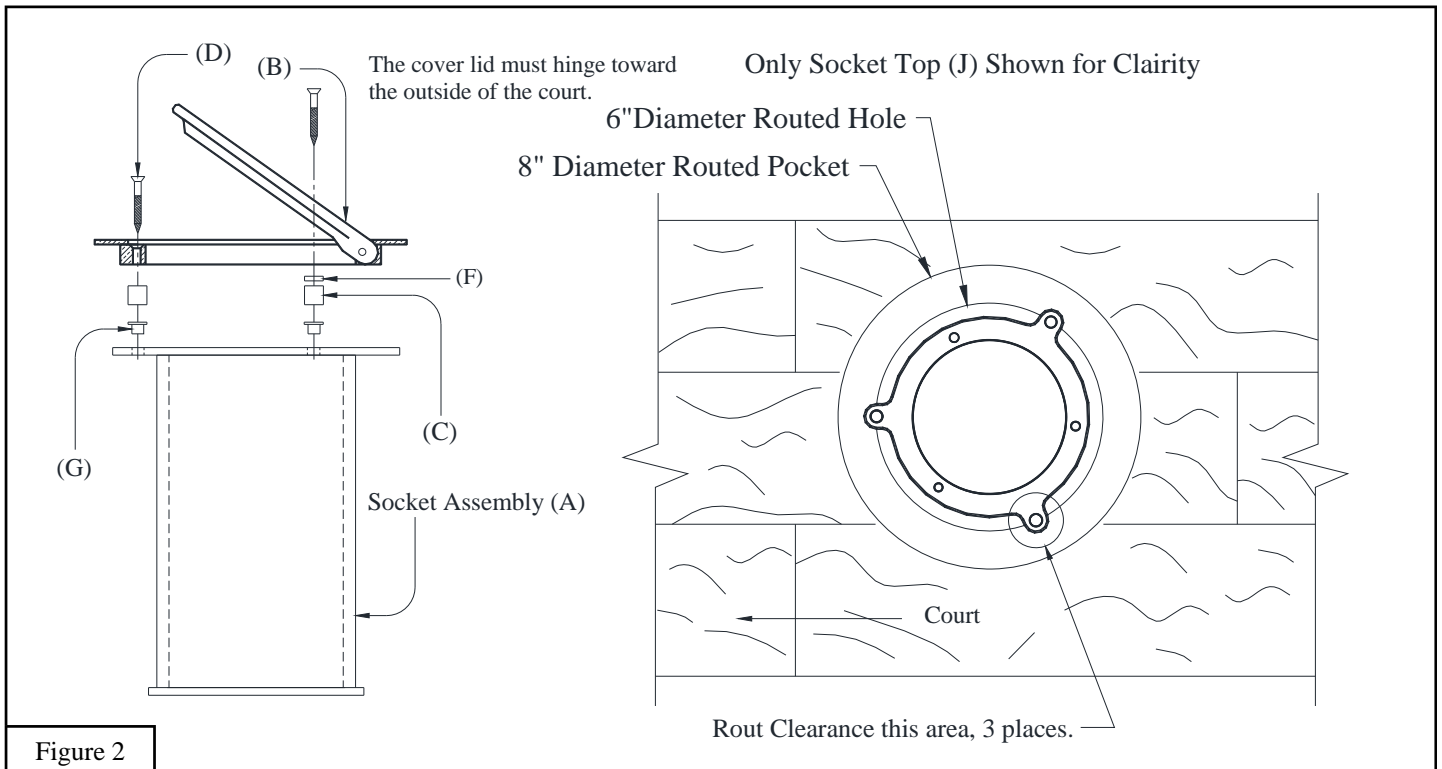

Figure 2
9. Attach the *Hinged Floor Plate (B)* to the *Socket Assembly (A)* using the *#10 X 1 3/4" Flat Head Phillips Wood Screws (D)*, *Spacers (F)*, *Nylon Standoffs (C)* and *#10 Plastic Tubular Nut (G)* provided. Make sure to install *Spacers (F)* in the two hole locations that are directly below the hinge on the *Hinged Floor Plate (B)*. See Fig 2.
10. Place entire assembly into hole so that when the lid is opened it is on the outside of the court. Trace around the protruding tabs on the socket top in the routed hole then carefully rout clearance in all three areas. See Fig 2.